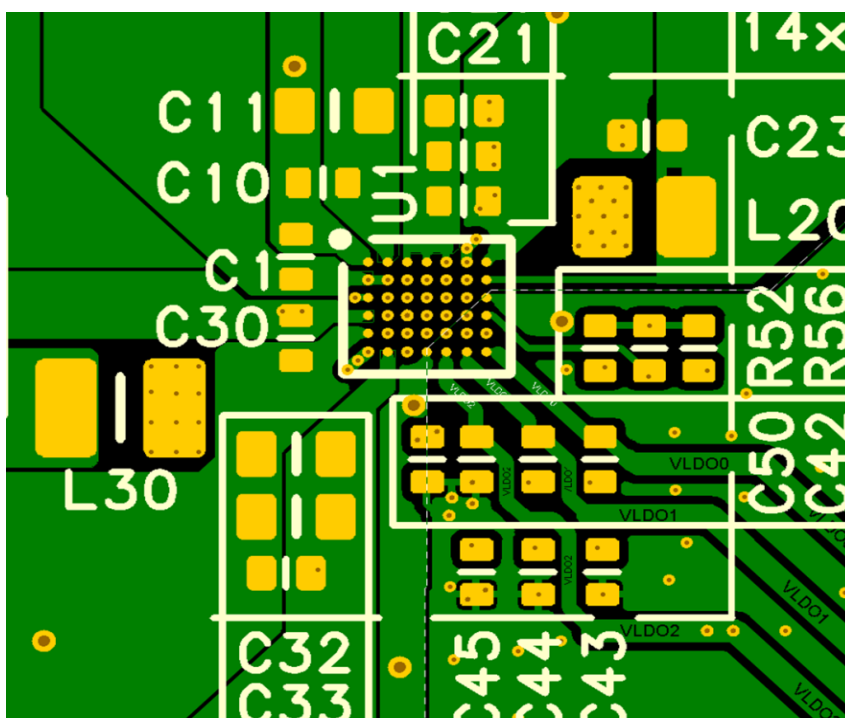
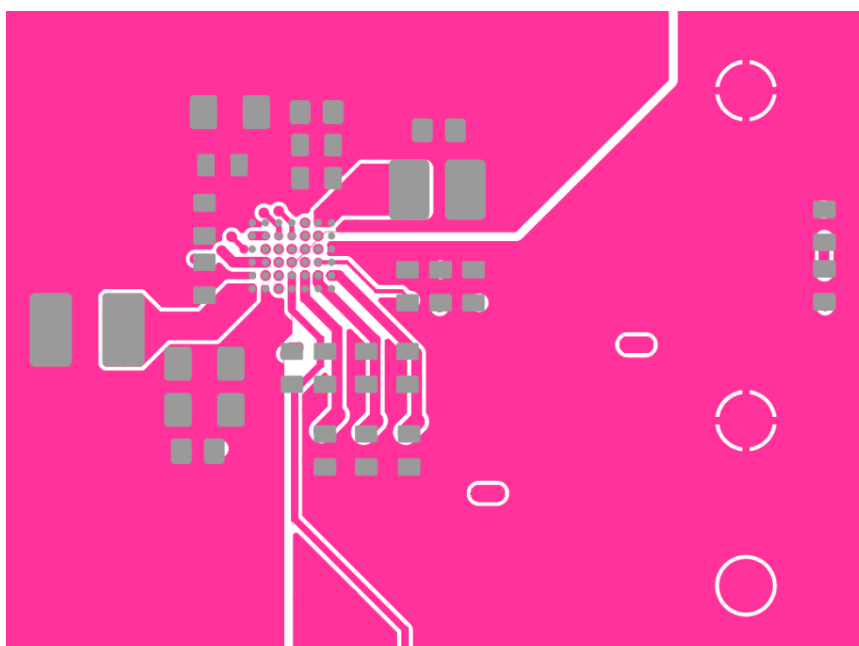

Figure 33: Example PCB Layout, Top Layer
Figure 34: Example PCB Layout, Layer-2
For an example of top and second layer routing, see Figure 33 and Figure 34. The buck input cap is C21. The cap is placed close to the IC with no vias between the pin and the cap. C23 is the buck output cap, connected on the top layer. L20 is the buck inductor; its SW node is routed on layer 2 and connected by multiple vias.
Layer-2 is a mostly filled GND plane, which provides shielding around the SW nodes routed on this layer. The isolated AGND area is on the right side of Figure 34. AGND is connected to the GND area at a single point on another layer, not shown here.
**Note 1** Figure 33 and Figure 34 are the PCB layout of DA9073. For DA9072, L30 and the SW node area on layer-2 can be removed and filled with GND plane.